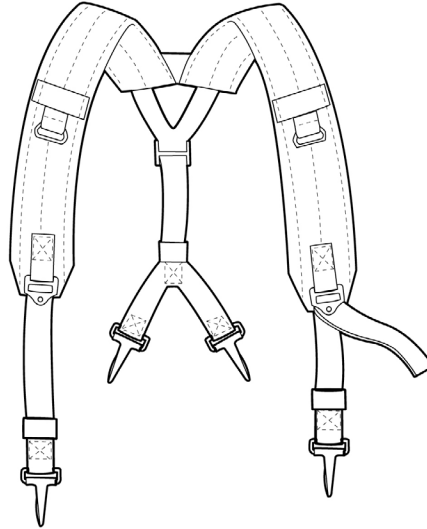

Figure 19. Individual Equipment Belt Suspenders.
**Individual Equipment Belt Suspenders (Replaced by MOLLE II TM 10-8465-236-24&P).** The Individual Equipment Belt Suspenders (Figure 19) are Y-shaped with three adjusting straps, with four points of attachment to the belt and ammunition cases. The shoulder straps are padded with spacer cloth. Each shoulder strap has a web loop and a non-slip buckle on each of the straps, in the front and one at the back, through which the adjusting straps pass. There are rectangular wire loops located between the web loops and the buckles on the front of the straps. The 1-inch wide adjusting straps have side-retaining snap hooks at one end. The back adjusting strap has an inverted “V,” of which each end has a side-retaining snap hook. Each of the adjusting straps has a loop around it made of 1-inch elastic material.